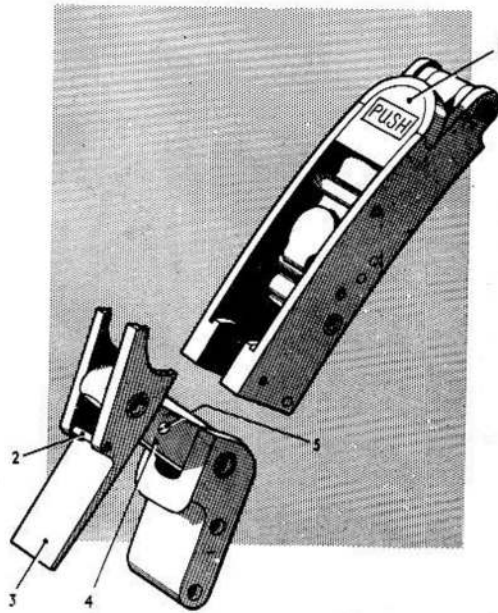

FIG. 3 TOGGLE FASTENER
6. Certain removable panels are secured in position by toggle fasteners (Fig.3). To open these fasteners, the catch lever (1) marked PUSH is depressed with the forefinger, causing the hook integral with this lever to disengage from pin (2) in the toggle lever (3), withdrawing it from the housing and thus disengaging the fastener. For re-engagement, the hooks on the end of the toggle lever are engaged in the recess and the lever pressed home with the palm of the hand. Adjustment is accomplished by screwing up or unscrewing the links (4), after first slackening off the grub screw (5) on the side face of the links. One turn of the thread on the links gives 0.036 in. of adjustment and the total adjustment available is 0.5 in. When adjustment is satisfactory, the grub screw must be re-tightened.